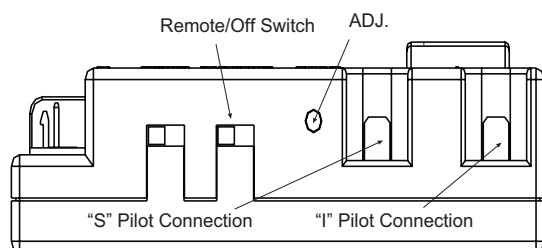

Figure 29 - Gas Module Right Side
1. There is a switch located on the right side of the module that reads REMOTE/OFF (**Figure 29**).